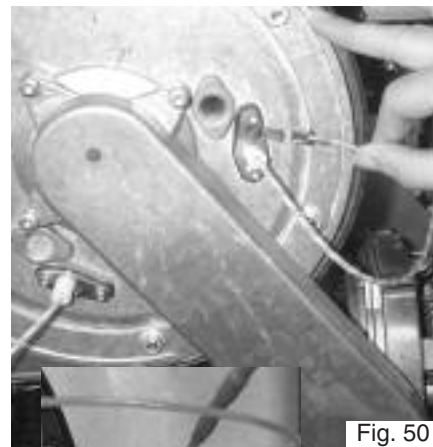

Fig. 50
4. Remove the earth cable from the ignition electrode (Fig. 50), and remove the ignition electrode cable from the ignitor (Fig. 53)